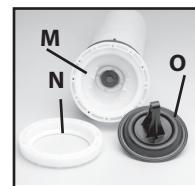

Figure 9
- Place diaphragm assembly (O) onto the pump housing (M). Place the flange (N) over the diaphragm. Reinstall the 12 torx screws around the outside diameter of the flange. Figure 9.